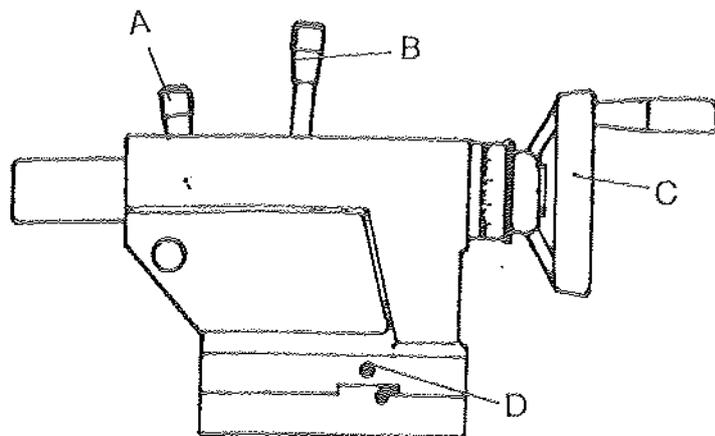

Fig. 13
17. **Tailstock Quill Clamping Lever (A, Fig. 13)** - located on the tailstock. Lift up to lock the spindle. Push down to unlock.
18. **Tailstock Clamping Lever (B, Fig. 13)** - located on the tailstock. Lift up lever to lock. Push down lever to unlock.
19. **Tailstock Quill Traverse Handwheel (C, Fig. 13)** - located on the tailstock. Rotate clockwise to advance the quill. Rotate counter-clockwise to retract the quill.
20. **Tailstock Off-Set Adjustment (D, Fig. 13)** - two hex socket cap screws located on the tailstock base are used to off-set the tailstock for cutting tapers. Loosening one screw while tightening the other off sets the tailstock.